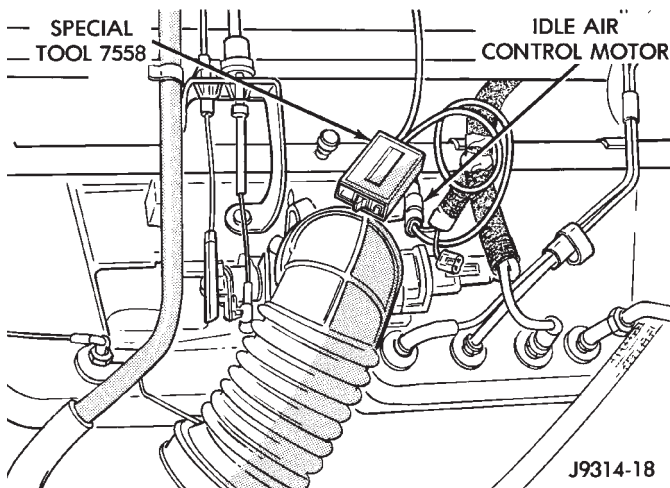

Fig. 24 Idle Air Control Motor Testing
Idle Air Control Motor operation can be tested using special exerciser tool number 7558 (Fig. 24).
(1) With the ignition OFF, disconnect the Idle Air Control Motor wire connector at throttle body (Fig. 24).
(2) Plug the exerciser tool number 7558 harness connector into the Idle Air Control Motor.
(3) Connect the red clip of exerciser tool 7558 to battery positive terminal. Connect the black clip to negative battery terminal. The red light on the exerciser tool will flash when the tool is properly connected.
(4) Start engine.